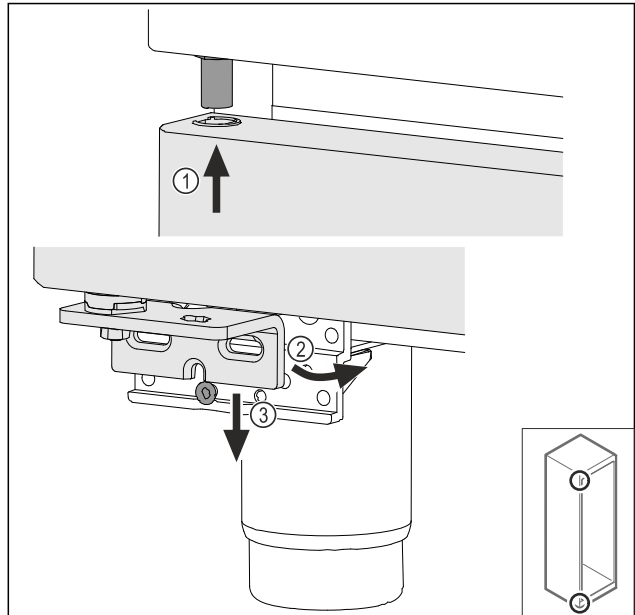

Fig. 41
- Insert the door slightly tilted at the top Fig. 41 (1), align the door straight Fig. 41 (2) and place it on the bottom of the swap bearing block screw Fig. 41 (3).